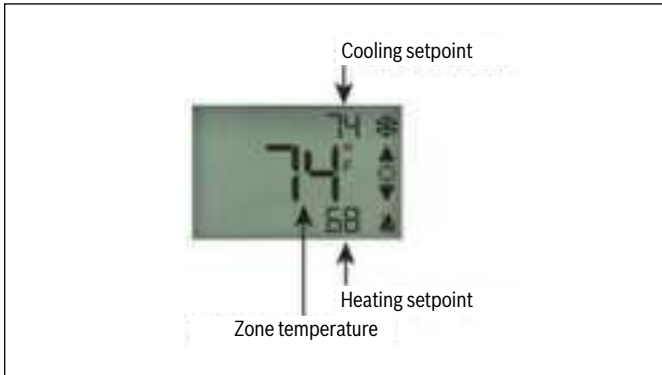

Figure 5
1. From the Home screen, press the ▲ or ▼ button to show the Setpoint Adjustment screen. The screen shows the following: (Figure 5)